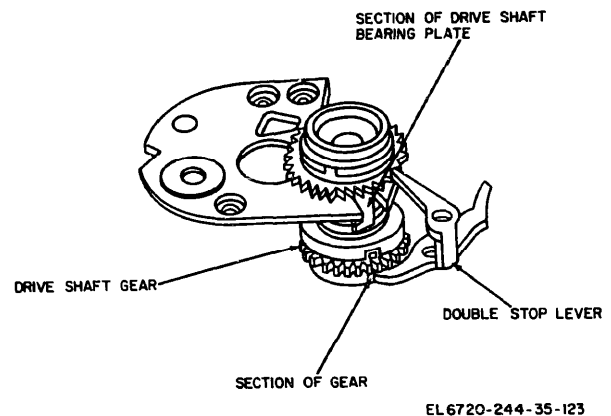

Figure 4-17. Drive shaft assembly.
(3) Position the driveshaft gear (fig. 4-17), to align one of its cutout sections with the cutout in the drives shaft bearing plate.
(4) Push back slightly on the upper end of the double stop lever, and position the drive shaft assembly over its mounting holes. Fasten the drive shaft assembly to the camera chassis.
(5) Install the camera chassis in the camera housing.
(7) Release the shutter. Observe that the lower portion of the double stop lever (fig. 4-17), engages the drive shaft gear, and that the upper